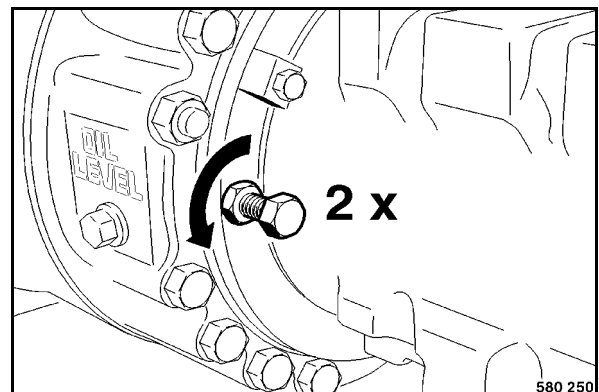

Fig. 113
- Unscrew the brake releasing screws (Fig. 113) for two turns and tighten the counter nuts.